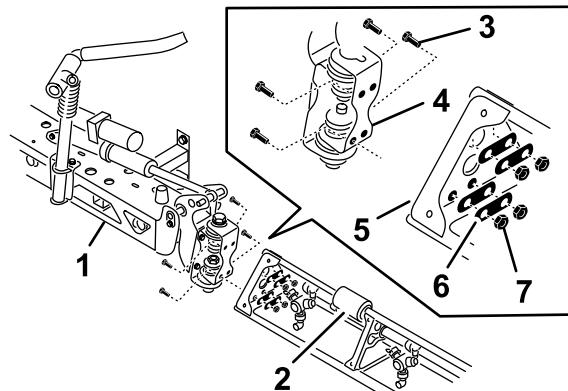

Figure 30
2. Rotate each pivot bracket at the end of the center boom section so that the brackets align vertically (Figure 30).
4. Assemble hinge plate to the triangular plate using 4 flanged-head bolts, 4 backing plates, and 4 flanged locknuts, that you removed in step 1, as shown in Figure 30.
6. Align the rod end of the boom lift cylinder with the holes in the horn of the pivot bracket (Figure 30).
7. Secure the rod end to the pivot bracket with a clevis pin and a hairpin (Figure 30).